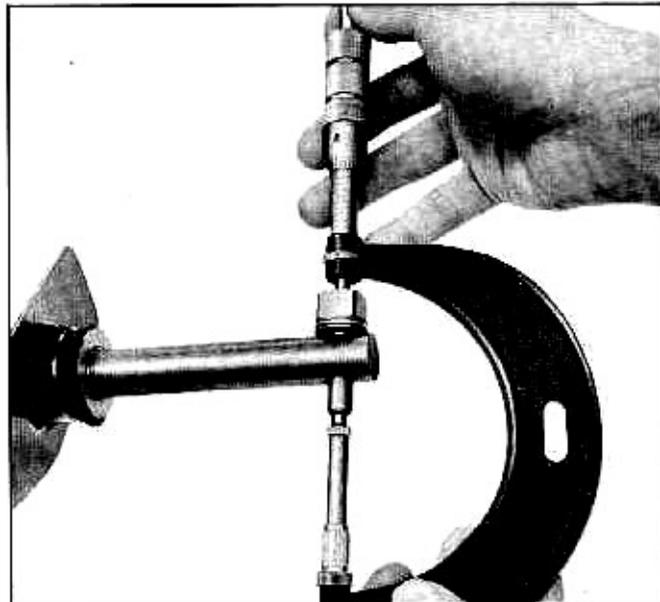

Fig. 4—Checking Coupling Pin Centering
3. Check centering of pin (fig. 4).